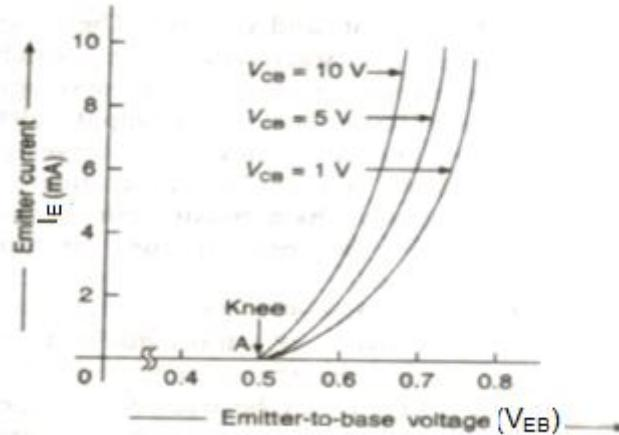

Fig. 3.8 Input characteristics of a common base transistor
- Now, if we plot a graph with emitter to base voltage ( $V_{EB}$ ) along the horizontal axis and the emitter current ( $I_E$ ) along the vertical axis, we shall obtain a curve marked  $V_{CB} = 1$  V as shown in Fig.3.8.
- A similar procedure may be used to obtain curves at different collector to base voltage 5 V and 10 V as shown in the figure 3.8.